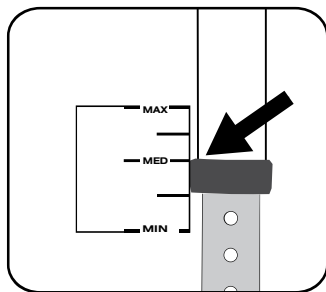

Figure 1: Downhaul until the calibration mark lines up with the bottom of the mast.
b) Downhaul your sail until the calibration mark lines up with the bottom of the mast (figure 1).